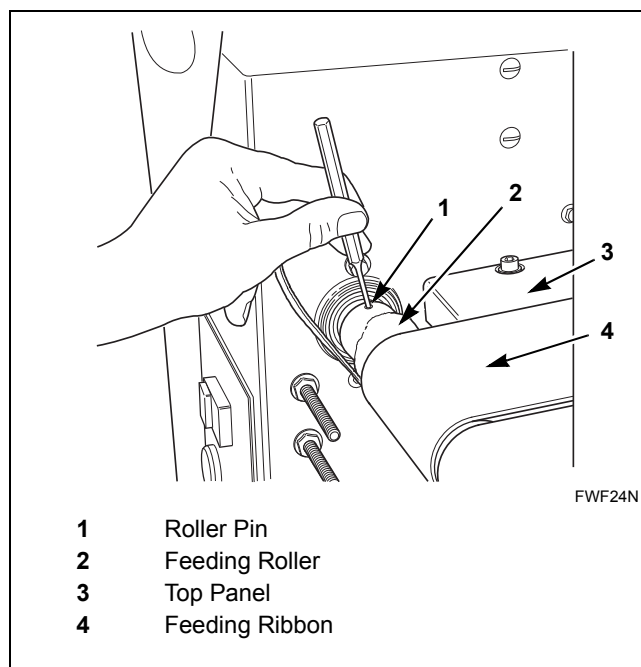

Figure 29
4. Using a center punch, completely knock out feeding roller pin. Refer to *Figure 29*.